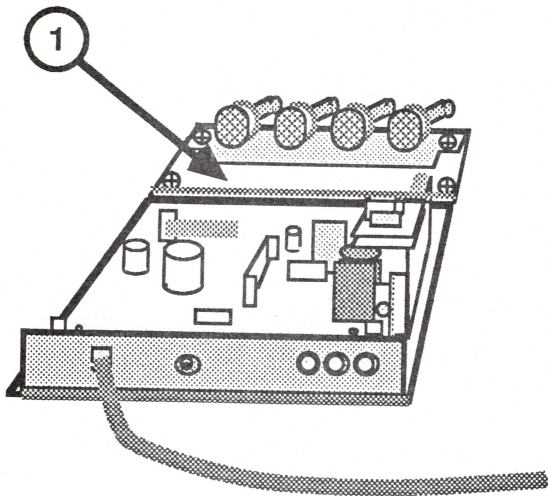

FIGURE 18
**NOTE:** If you are installing a replacement main logic PCB module in the ColorMonitor IIe, you must first install an extension bracket between the main logic PCB and the control PCB. (This ensures size compatibility between the entire main logic PCB assembly and the monitor housing.) The extension bracket (with hardware) is included in all Main Logic Board Assembly spares modules. Install the bracket as shown in Figure 18, #1. Then continue to the steps below.